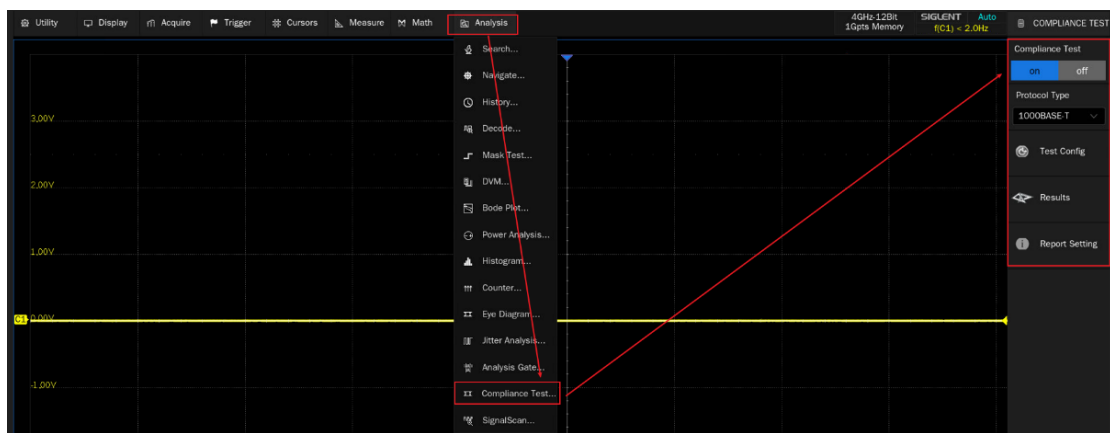

Figure 4-1 Launching 1000 BASE-T Compliance Analysis Software
**Compliance Test** -> **Protocol Type** , select **1000 BASE-T** and click **ON** to activate the compliance test function, which is shown in Figure 4-1. The compliance test function is divided into three main parts: **Test Config** , **Results** , and **Report Setting** .